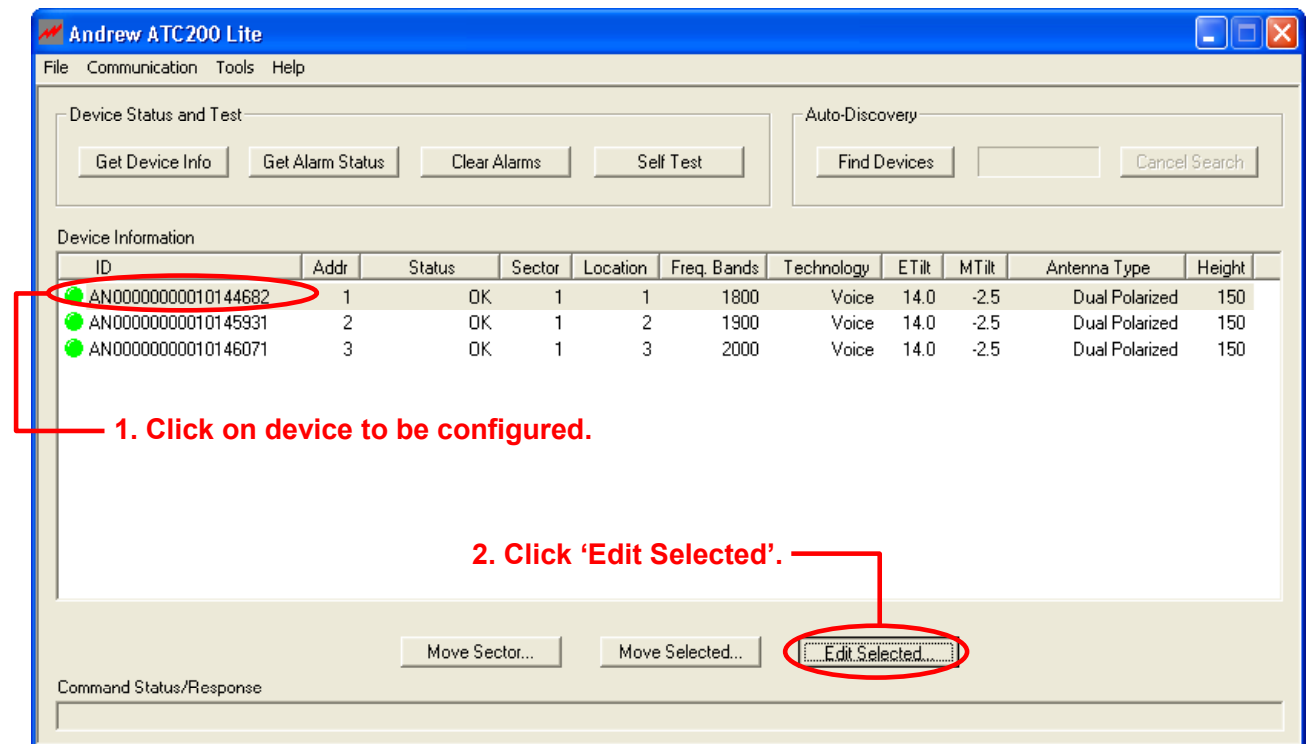

Figure 5-1. Selecting Device to be Configured.
1. To begin device configuration, click on the device to be configured (Figure 5-1).
2. Click on 'Edit Selected' to open the 'Device Configuration' screen (Figures 5-1 and 5-2).